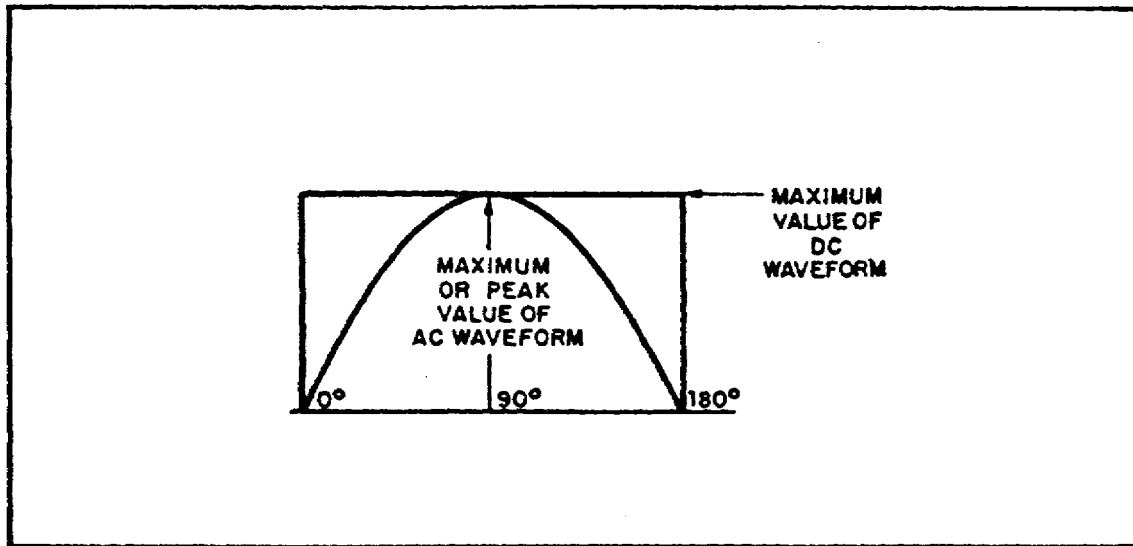

FIGURE 64. MAXIMUM OR PEAK VALUE.
(1) *PEAK And PEAK-TO-PEAK Values.* Refer to figure 64 on the following page. Notice it shows the positive alternation of a sine wave (a half-cycle of ac) and a dc waveform that occur simultaneously. Note that the dc starts and stops at the same moment as does the positive alternation, and that both waveforms rise to the same maximum value. However, the dc values are greater than the corresponding ac values at all points except the point at which the positive alternation passes through its maximum value. At this point the dc and ac values are equal. This point on the sine wave is referred to as the maximum or peak value.